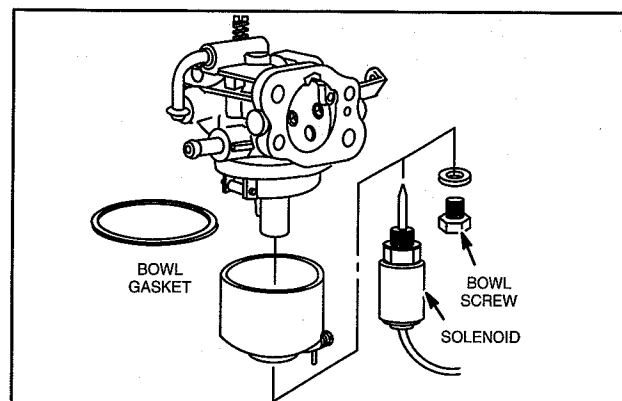

Fig. 25 – Removing Float Bowl
1. Remove anti-afterfire solenoid or bowl screw, washer and bowl, Fig. 25.